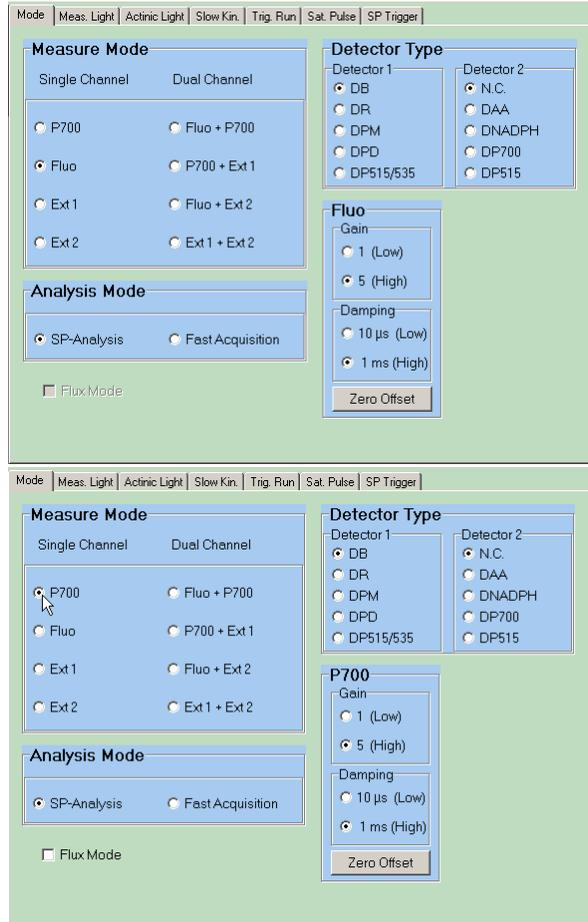
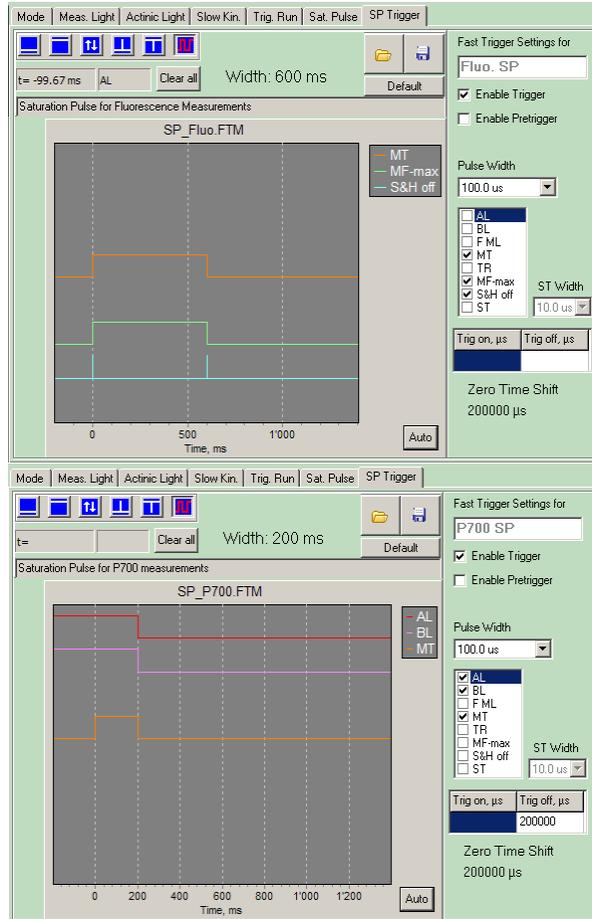
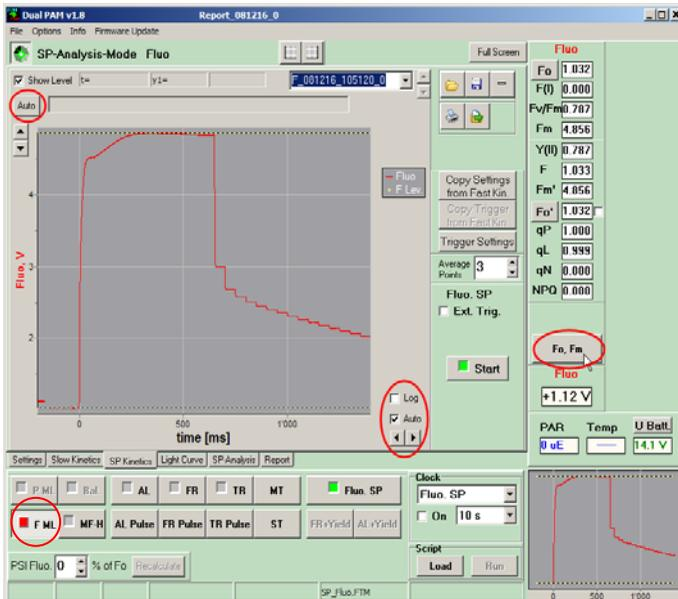
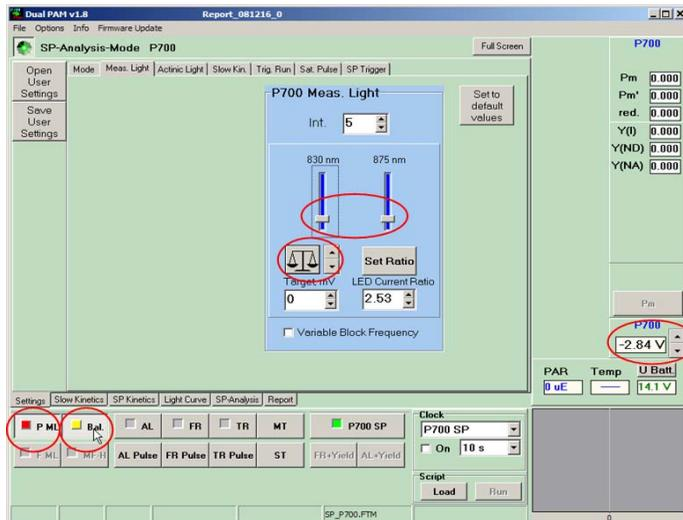

Fig. 8 Settings Measure Mode; top: Chlorophyll fluorescence; below: P700 measurement
Fig. 11 Trigger Schedule for Saturation Pulse; top chart: Chlorophyll fluorescence; chart below: P700 measurement
Fig. 14 Saturation Pulse kinetics during Fm determination
Fig. 15 Balancing of the P700 Measuring Light
cence or P700 channel activated (see Fig. 8). The Dual-PAM program will only show the parts belonging to the selected channel. The following figures show a comparison of the settings, when either the Mode **Fluo** or **P700** is selected. Each settings window has a button for default settings, which can be used in the beginning.
As can be seen in **Fehler! Verweisquelle konnte nicht gefunden werden.** and Fig. 11, the default settings for the Saturation Pulses (SP) differ between the chlorophyll fluorescence (width 600 ms) and P700 (width 200 ms) measurements. For simultaneous Fluo and P700 measurements the default SP width would have been 300 ms.
In Fig. 11 the trigger schedule for the Saturation Pulse procedure is shown. The saturation pulse itself is assigned **MT** (multiple-turnover with regard to single-turnover **ST**), its line is in the middle of both charts. Its width (compare upper and lower chart of Fig. 11) can be shorter for P700 measurements than for chlorophyll fluorescence, since full oxidation of PSI occurs in the very beginning of the pulse, when
The two upper lines in the lower chart of Fig. 11 show the schedule for the Actinic Light (**AL**) and Blue Light (**BL/FR**). They are transiently switched off after each Saturation Pulse, in order to assess the P700 signal in the fully reduced state.
The two lower lines in the SP trigger schedule for fluorescence (upper chart Fig. 11) have technical reasons: The frequency of the Measuring Light is transiently switched to maximum (**MF-max**) during the Saturation Pulse in order to obtain maximal time resolution. MF-max is higher in the Single-Channel Mode (400 kHz) than in the Dual-Channel mode (blocks of pulses alternating between the two channels). The lowest line, annotated with **S&H**, refers to a sample-and-hold amplifier in the system. It is switched off for a short period of time (default: 100 μ s) during strong fast changes in light, which otherwise would disturb the pulse modulated measurement.
For fluorescence measurements, choose the Mode **Fluo** (see Fig. 8) and switch the Measuring Light on using the **F ML** button. Then press the button **Fo, Fm** (see Fig. 14), which triggers a Saturation Pulse according to the trigger schedule shown in Fig. 11. To see the complete kinetics of the rapid SP-induced fluorescence changes open the window **SP Kinetics**. To autoscale the curve, use the buttons **Auto** (Fig. 14).
For P700 measurements, choose the Mode P700 (see Fig. 8). When the Measuring Lights are switched on using the **P ML** button, an automatic Balance of the difference signal is performed (see Fig. 15).
The two beams are balanced best, when the P700 signal (red circle at the right side of Fig. 15) is close to 0.00 V. Fine adjustment can be done with the two arrow keys beside it. Please note that the absolute level of the difference signal has no effect on the observed signal changes, as long as the difference signal does not saturate (at +6.5 and -2.8 V).
Settings Mode (Fig. 8)